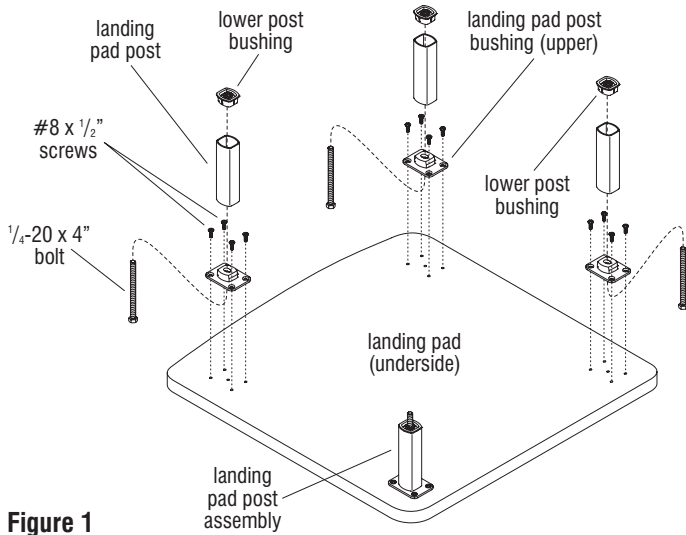
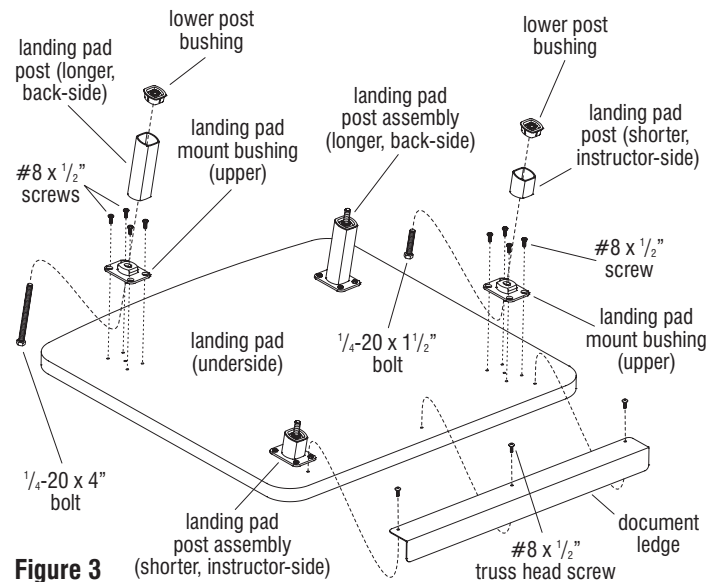

Figure 1
Figure 3
1. Determine the style of landing pad to be installed by locating and examining the landing pad hardware pack. The hardware pack for "flat" landing pad installation will include four of the same size landing pad posts (Figures 1 & 2). The hardware pack for the sloped landing pad installation will include two longer, and two shorter landing pad posts (Figures 3 & 4). Refer to the correct instructions on either this, or the following page.
1. Carefully place the flat landing pad upside down on a soft, protective surface. Open the hardware pack and familiarize yourself with all parts and hardware (Figure 1).
2. Insert four 1/4-20 x 4" bolts into the four upper landing pad post bushings as illustrated, then secure each upper landing pad post bushing with bolt to the landing pad underside using four #8 x 1/2" screws as illustrated (Figure 1).
3. Place a lower post bushing onto each landing pad post and press each of four post with lower bushing assembly onto each of four installed upper landing pad bushings with bolts as illustrated (Figure 1).
1. Carefully place the sloped landing pad upside down on a soft, protective surface. Open the hardware pack and familiarize yourself with all parts and hardware. Take special note of the two different sized landing pad posts and the two different sized attachment bolts (Figure 3).
2. Orient the user side of the landing pad to be over the edge of a table (or the storage tower top) for ease of installation, then align the mounting holes of the document ledge with the pre-drilled mounting holes on the underside of the landing pad. Secure the ledge to the front, user side of the pad using three #8 x 1/2" truss head screws (Figure 3).
3. Insert two 1/4-20 x 4" bolts and two 1/4-20 x 1 1/2" bolts into the four upper landing pad bushings as illustrated (Figure 3).
4. Secure the upper bushings with the shorter 1 1/2" long bolts to the underside of the landing pad near the document ledge using four #8 x 1/2" screws each. Then secure the two upper bushings having the 4" long bolts to the underside of the landing pad using four #8 x 1/2" screws each (Figure 3).
tall and two short) as illustrated. Position the shorter landing pad post/bushings to the installed upper bushings closest to the installed document ledge. Take care to orient the angled edge of the posts correctly to match the slope of the landing pad underside (Figure 3).
6. Repeat the above procedure with the longer landing pad posts, positioning them to the rear upper bushings at the 4" bolt locations, correctly matching the slope angle (Figure 3).